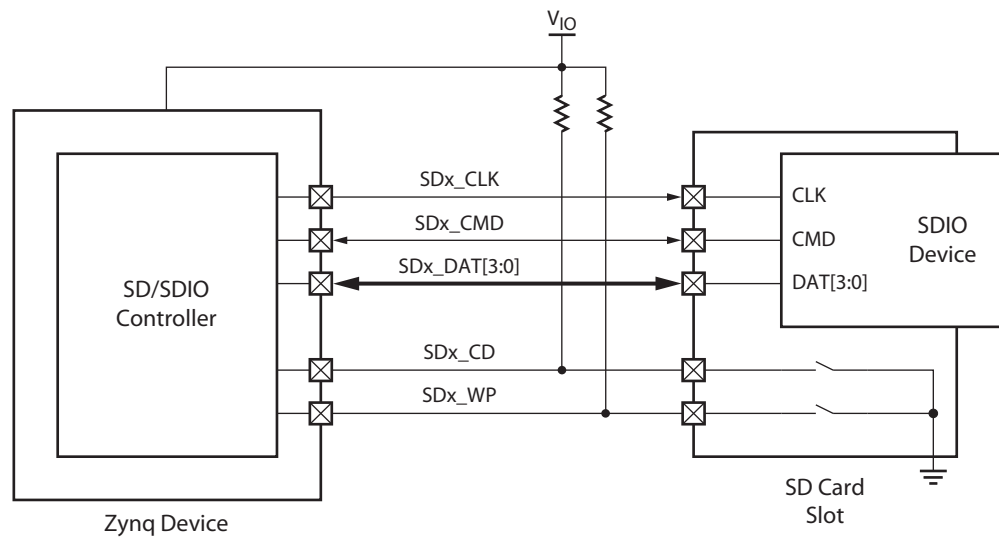

Figure 13-8: SD/SDIO Card Detect and Write Protect
- Secure digital (SD) memory
Some SD card slots provide two additional pins: card detect (CD) to signal the insertion or presence of a card and write protect (WP) to report the position of the write protect switch on memory cards. These pins are usually pulled to GND when a card is detected or the card is write-protected. They need to be pulled up to the MIO I/O voltage with a 50 K Ω resistor (see Figure 13-8).